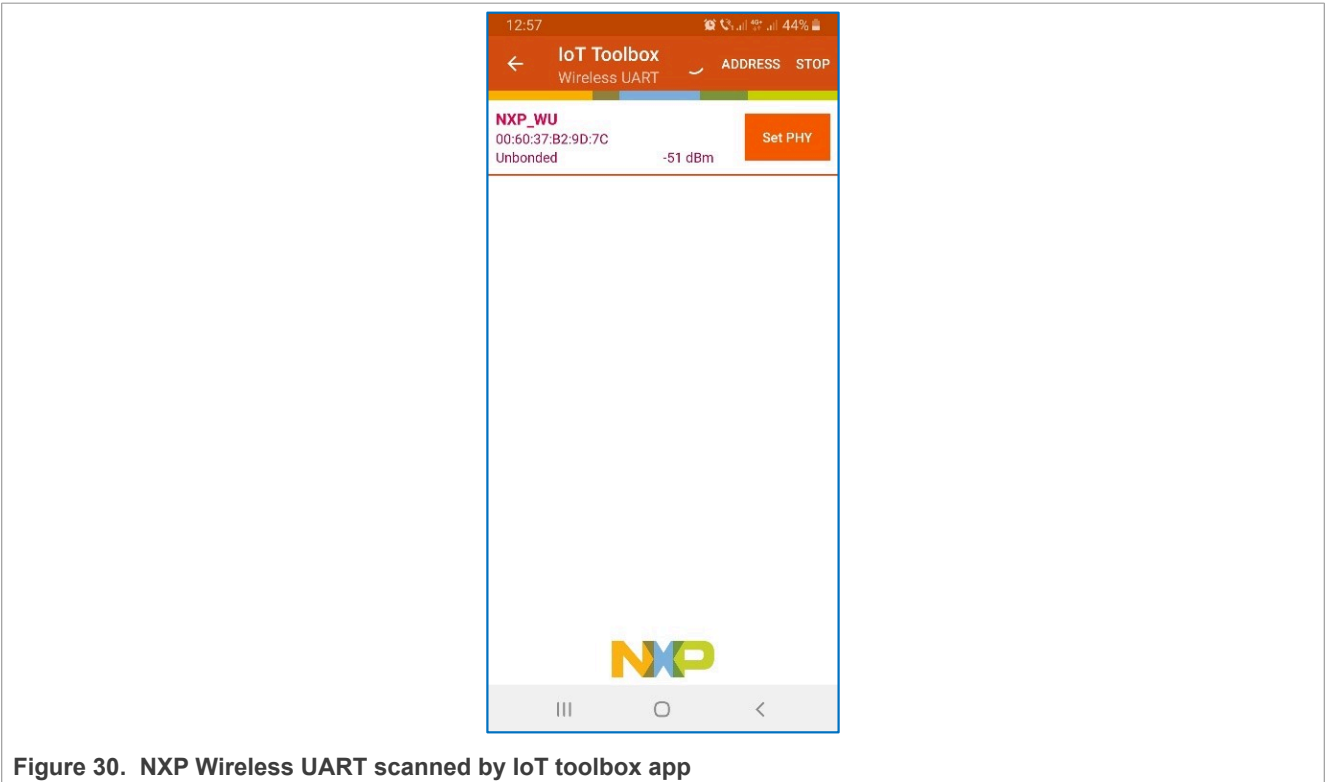

Figure 30. NXP Wireless UART scanned by IoT toolbox app
8. The device should become visible for the Wireless UART mobile application, as shown in Figure 30.